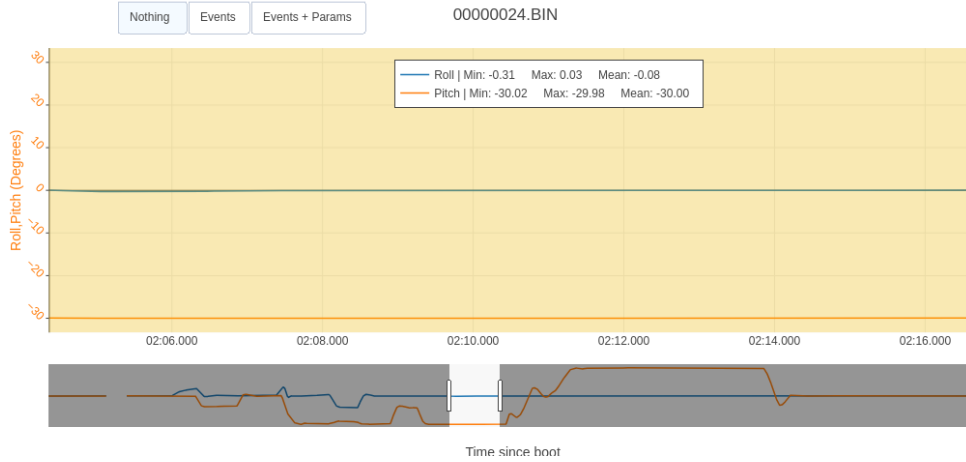

Figure 7: Waypoint 5 to Waypoint 6 (Pitch, Roll vs Time)
- It can be observed from fig. 7 that the mean roll angle is approx. 0° roll towards left and mean pitch angle is about -30° (pitching down). During this part of the mission there is a headwind from east to west. And hence to counter the headwind the vehicle reaches the highest average pitch angle of the mission.